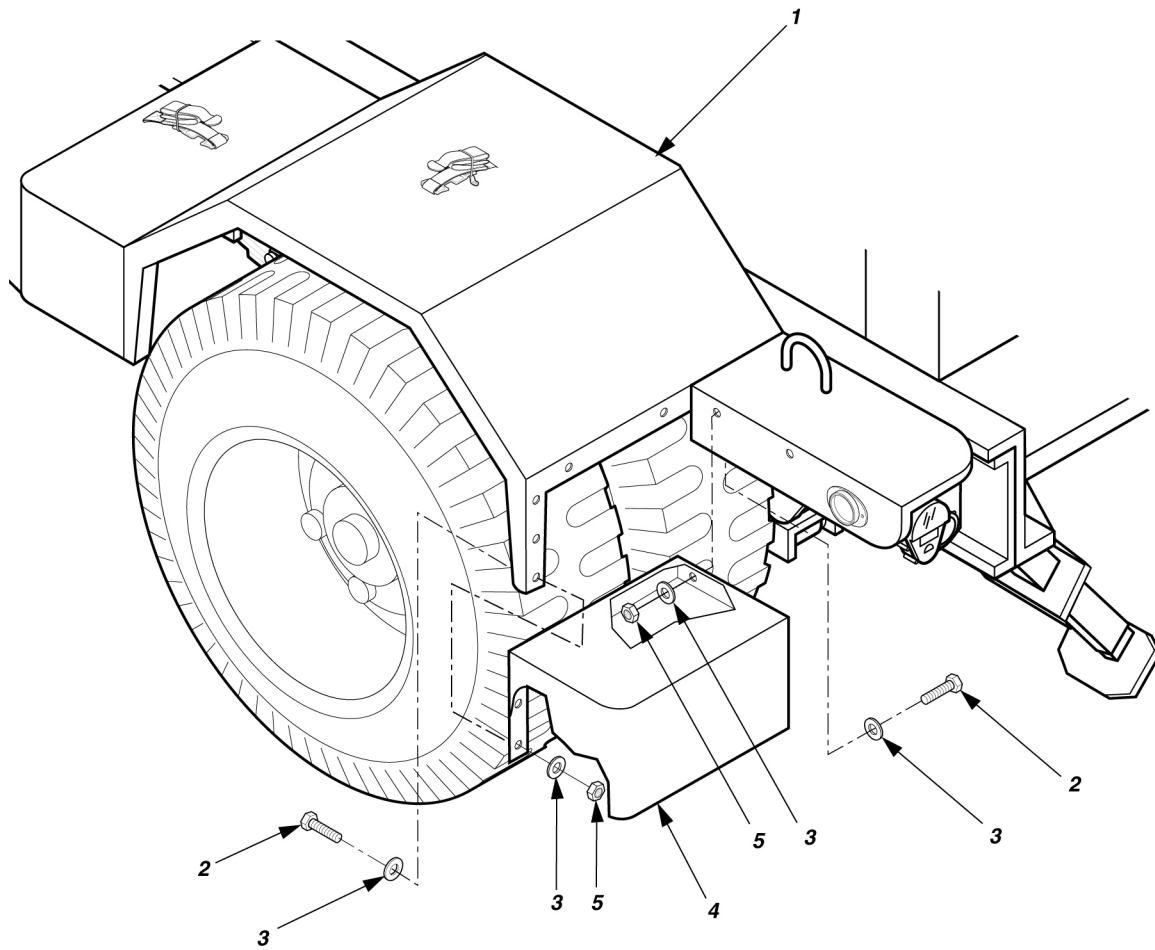

Figure 4-17. Rear Step Replacement (if installed)
1. To remove either rear step, remove self-locking nuts (5, figure 4-17), flat washers (3), and bolts (2) that secure rear step (4) to trailer frame. Discard self-locking nuts (5).
2. Remove self-locking nuts (5), flat washers (3), and bolts (2), that secure rear step (4) to fender (1). Discard self-locking nuts.
3. Remove rear step (4) from trailer.